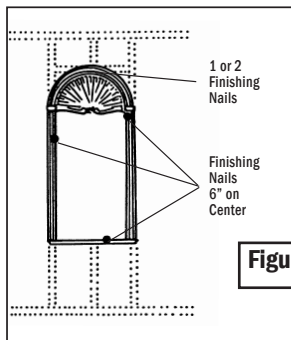

Figure 3
- Check for plumb/level then screw or nail into bracing and studs. (*figure 3*)